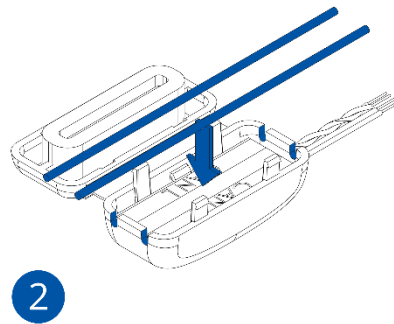

Figure 5 Inserting CAN bus wires
2. Insert **CAN** wires as shown in **figure 5**. Please make sure that correct slots are used (CAN **High**/CAN **Low**).